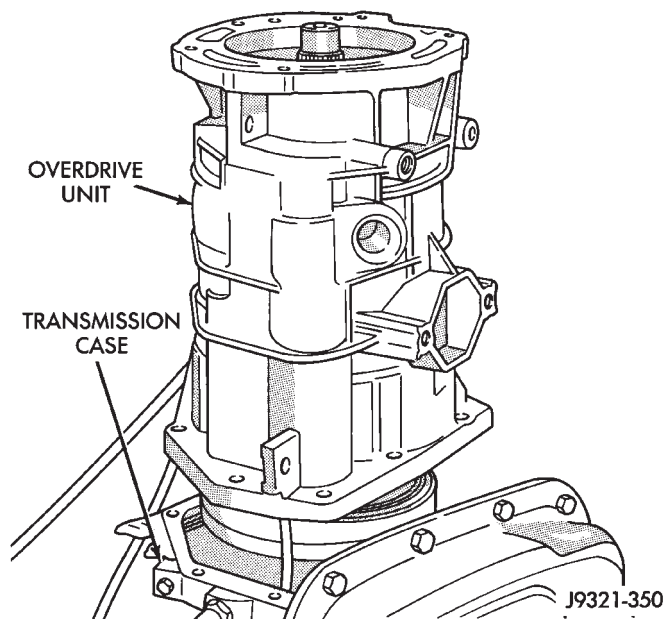

Fig. 246 Overdrive Unit Removal/Installation
(4) Lift overdrive unit up and off transmission case and intermediate shaft (Fig. 246).